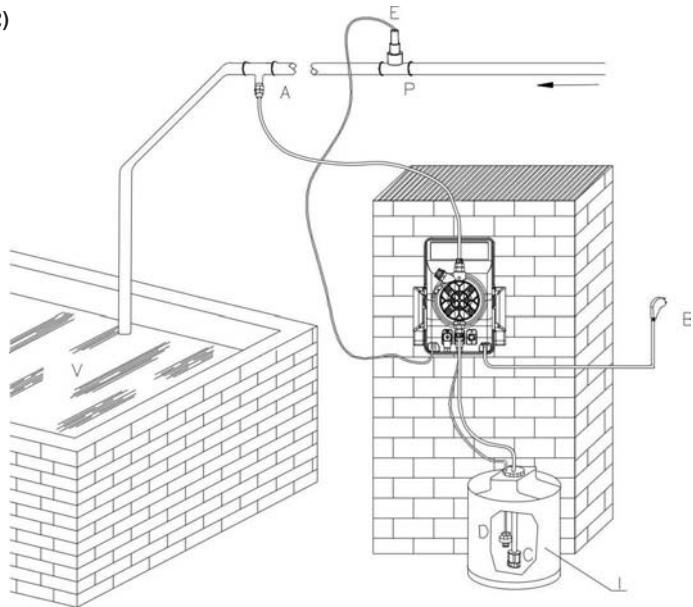

Fig. 12
6.2 - SCHEMA DI IMPIANTO TIPICO (Fig 12)